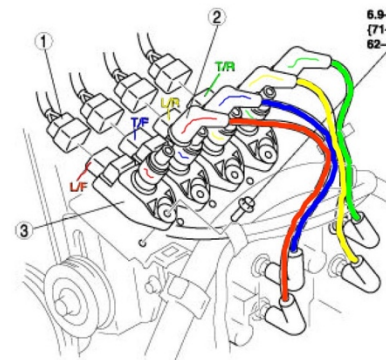

Figure 1.
- 4.) The OEM ignition coil bracket is held on by three 10mm bolts that can be difficult to get to with a 3/8" ratchet and socket. Using the 1/4" ratchet, 3" extension, and 10mm socket, remove the (2) 10mm bolts near the A/C compressor. Once the (2) 10mm bolts are removed, add the 6" extension and remove the (1) 10mm bolt on top of the engine holding the bracket down. Remove the coils and bracket and set them to the side.
- 6.) Using the 1/4" ratchet, 3" extension, and 10mm socket, replace the (3) 10mm bolts back into their respective locations and tighten down. Be careful not to tighten too tight as the bolt will shear off.
- 7.) Attach spark plug wires to spark plugs using Figure 1. Making sure they click onto the spark plug. A long 3/8" drive extension can be used (ratchet side on boot) to push the spark plug wire in. Pull on boot to make sure it is secure.